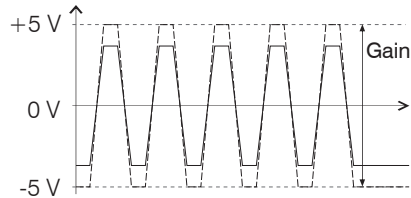

Fig. 15 Output signal on the controller, optimum gain adjustment
- ➡ Set the output voltage with potentiometer “gain” to the value of the desired voltage for full range (± 5 V), see Fig. 15.